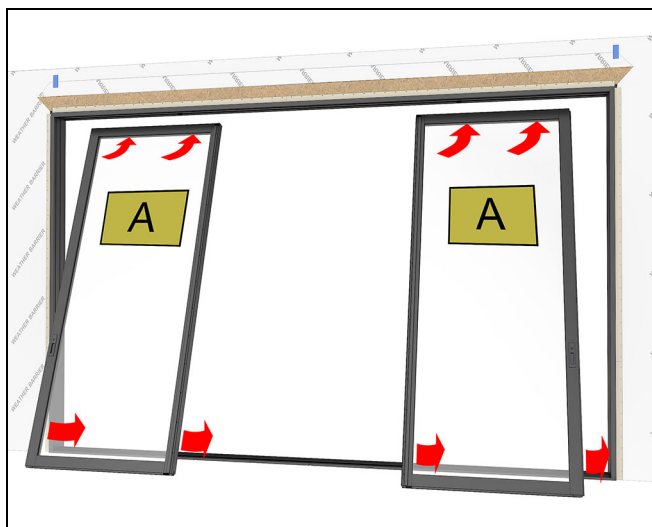

Figure 146
1. Install the (A) primary panels on the interior track. See Figure 146.